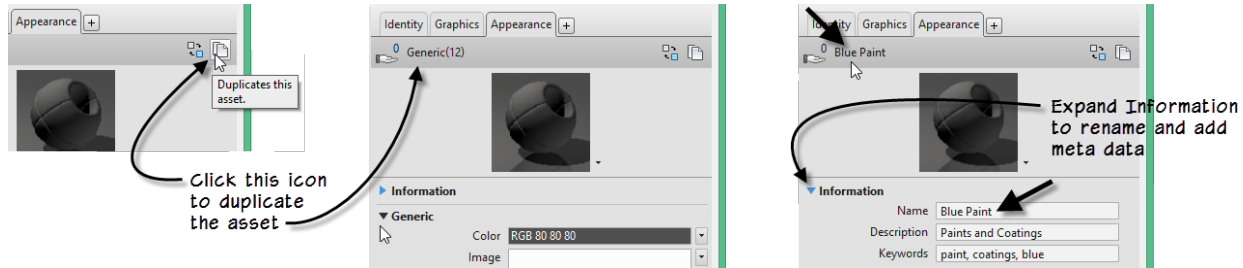

Figure 7—Duplicate and rename the appearance asset
4. At the top-right corner of the editor pane, click the small duplicate asset icon (see the left side of Figure 7).